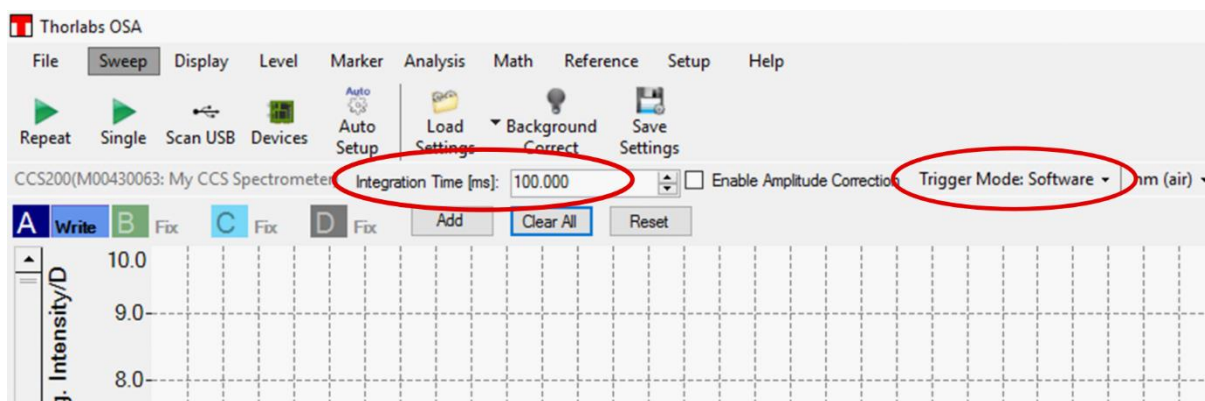

Figure 5: A screenshot of the Thorlabs software for the spectrometer highlighting where the Integration time and the Trigger mode can be changed.
- a. Under the “Sweep” bar, choose “Trigger Mode: Software” and take one single test measurement by pressing “Single” (Fig. 5). A single sweep spectrum should appear on the screen.
- e. Choose a desired Integration Time (in ms, Fig. 5). Note: this must be smaller than the “Sampling time” in Arduino script, which defines the mirror movement intervals. Typical values used are approximately 100-200 ms for the Integration time and 260-500 ms for the Sampling time.